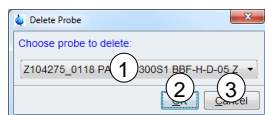

Figure 5-24: Delete Probe – choose probe
### Delete Probe Dialog (Figure 5-24)
- (1) In the dialog (Figure 5-24) select the probe (1) to delete.
- (2) Click **OK** (2) to continue to delete the probe.
- (3) Click **Cancel** (3) to abort deleting a probe.